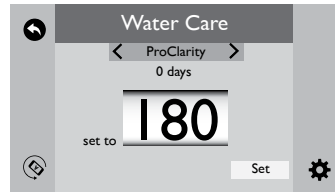
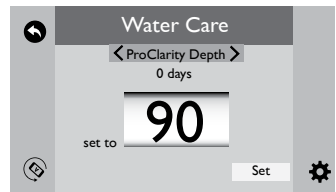
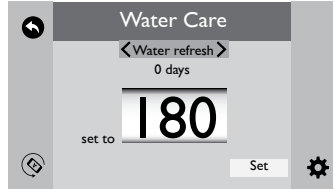

Figure 12.6d
Figure 12.6e
Figure 12.6f
1. When you enter the “Water Care” Menu, Figure 12.6c, tap < or > until you reach the “ProClarity” option, Figure 12.6d.
1. When you enter the “Water Care” Menu, Figure 12.6d, tap < or > until you reach the “ProClarity Depth” option, Figure 12.6e.
1. While in the “Water Care” Menu, Figure 12.6e, tap < or > until you reach the “Water Change” option, Figure 12.6f.